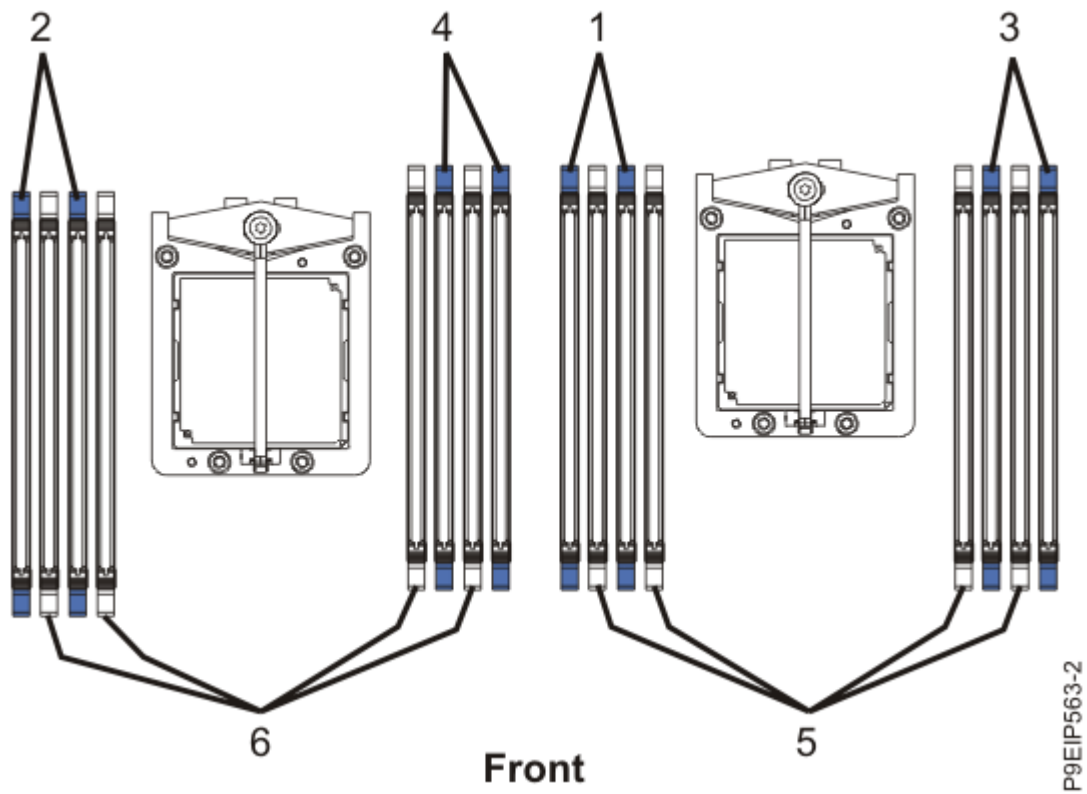

Figure 13. Two-processor memory plugging sequence
- For a two-processor system, use Table 2 on page 19 and Figure 13 on page 20 to determine the memory placement.